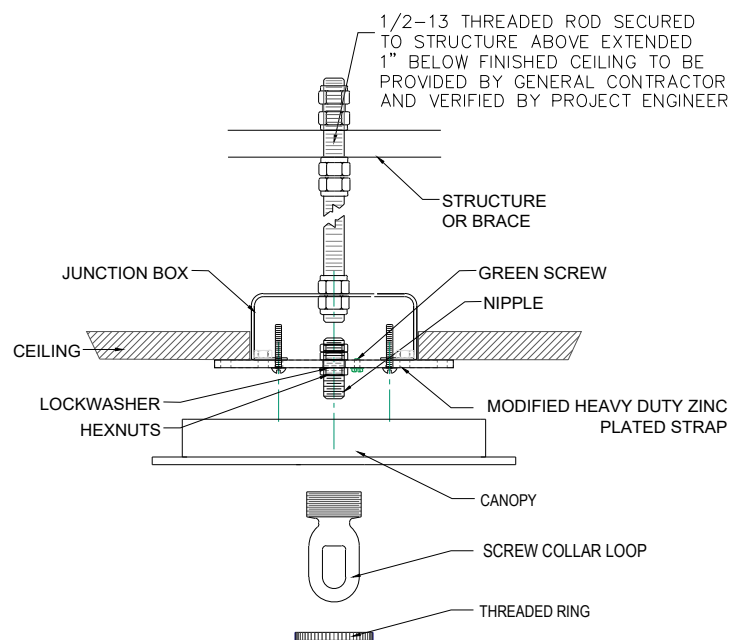

FIGURE-01
2. Remove the threaded ring from the screw collar loop. Fully thread the screw collar loop onto the nipple. Thread the hex nut onto the nipple and the nipple into the mounting strap. Place the canopy over the screw collar and against the ceiling. Adjust the nipple so that $\frac{1}{4}$ " of threads on the screw collar loop extend beyond the canopy. Tighten the hex nut against the crossbar. Using the threaded ring, install the canopy. (See Figure -01)